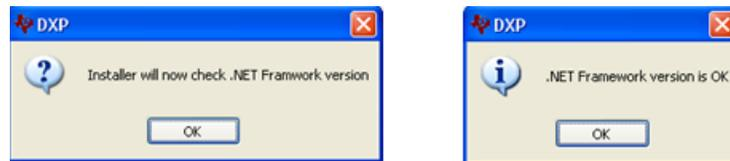

Figure 3. .NET Framework Check
7. During the installation, there will be a prompt to check the .NET framework. If the framework is not up-to-date, it will begin its installation. Otherwise, a notification box will state that it is OK to proceed, as shown in Figure 3.